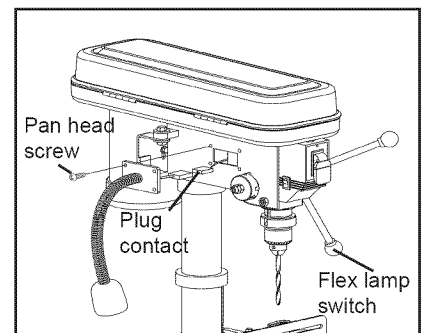

Figure 8
- 7.3. Turn on the flexible lamp switch to check the lighting. **Fig. 8**